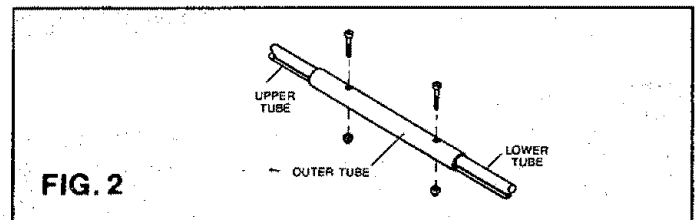

FIG. 2
6. Insert screws into the holes and attach locknuts (Fig. 2). Actuate lever to ensure free movement of cable before tightening screws (see instructions under "ADJUSTABLE HANDLE"-PAGE 4).